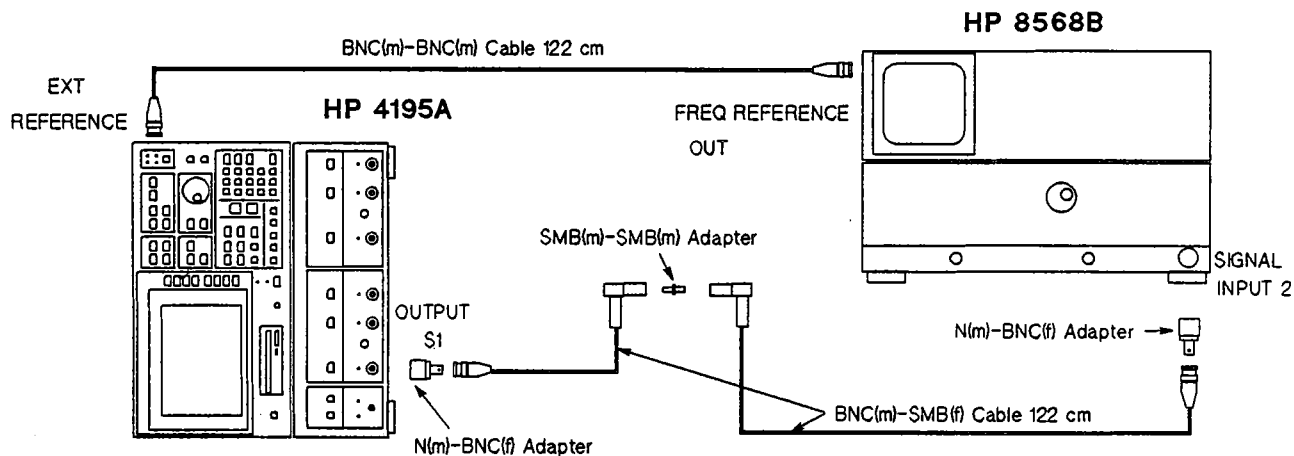

Figure 3-96. Third IF converter Level Adjustment Setup (1 of 2)
1. Position the HP 4195A on its left side as shown in Figure 3-96.
2. Connect the equipment as shown in Figure 3-96.